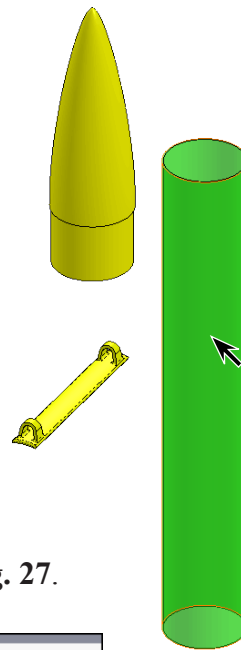

Fig. 25
Step 3. Check **Lock Rotation** and Add/Finish Mate  in Mate pop-up toolbar to add a **Concentric** mate, Fig. 25.